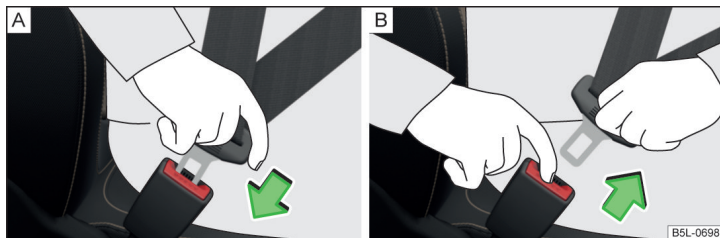

Fig. 7 Fastening/unfastening the seat belt
- Insert the lock tongue into the belt buckle for the seat » Fig. 7 - [A] until it audibly clicks into place.
- Press the red button in the belt buckle » Fig. 7 - [B]; the lock tongue pops out.